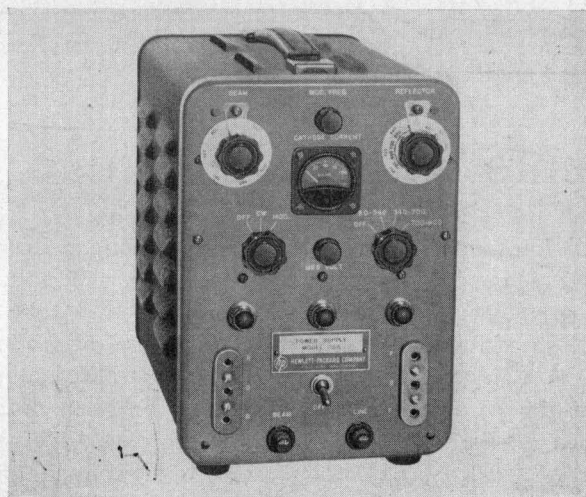

Figure 1. -hp- Model 715A Power Supply designed for supplying low-power klystrons.
AS MORE and more types of low-power klystrons have become available, need has grown for a small, bench-type power supply to operate these klystrons. The new -hp- Model 715A Power Supply shown in Figure 1 has been designed specifically for this purpose. The new unit provides—
(1) a regulated beam supply adjustable by a calibrated panel control from  $-250$  to  $-400$  volts d-c at currents up to 50 milliamperes. Beam current is monitored by the panel meter visible in Figure 1.
(2) a regulated reflector supply adjustable by calibrated panel controls from  $-10$  to  $-900$  volts d-c.
(3) square-wave modulation on the reflector supply at a nominal repetition frequency of 1000 cps.\* Square-wave ampli-